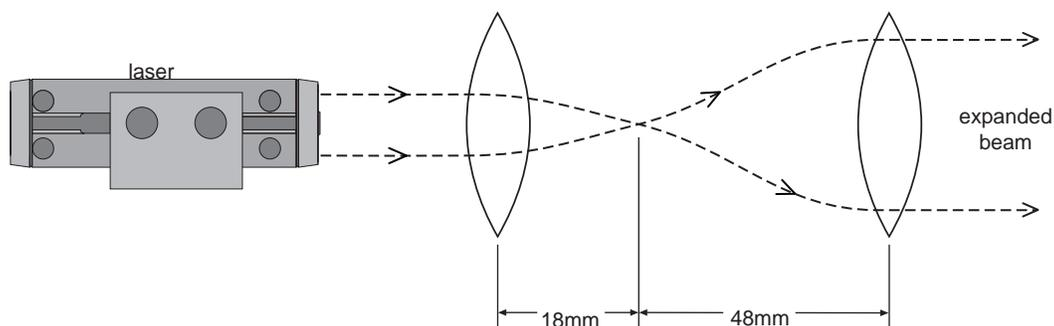

Figure 5.1: Experiment Setup
- ① Attach the 18 mm F.L. lens and 48 mm F.L. lens to component carriers and position them as in Figure 5.1. (The 18 mm F.L. lens on the front of the laser.)
- ② Adjust the position of the 48 mm F.L. lens until the emerging beam is again collimated. Check the collimation by observing the image size at various position along the bench. If the beam is collimated, the image should remain fairly constant. This enlarged collimated beam makes some experiments much easier to perform.